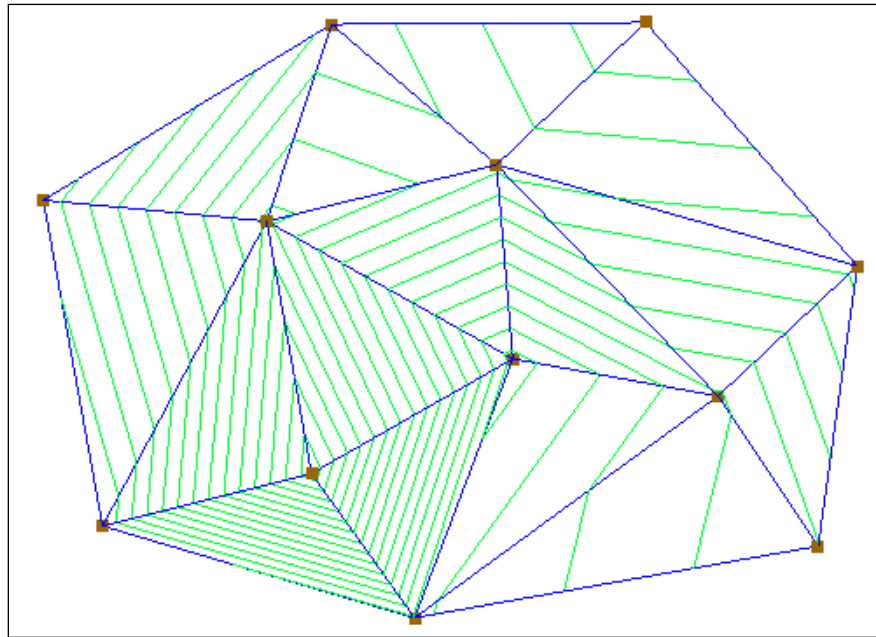

Figure 8 Scatter points appearing at the vertices
2. Right-click on “ sparse” TIN, and select *Convert To | 2D Scatter Points*. A set of scatter points should appear (Figure 8).